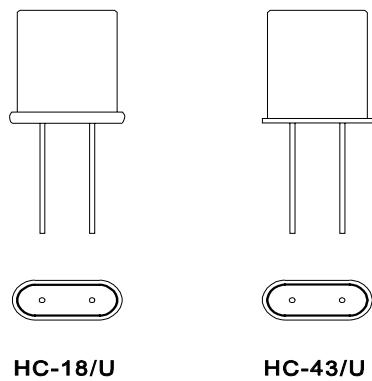

Figure 9.1
- 9.2 Do the following step only if the crystal is per spec 158-0075-00 (package style HC18/U or HC43/U-2 per Figure 9.1.